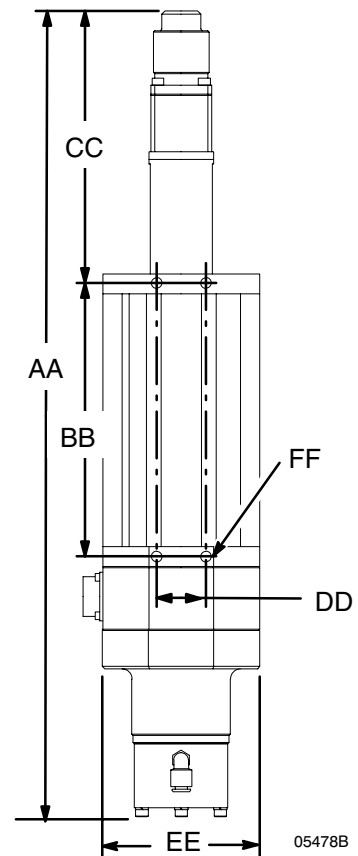

Fig. 1
1. Mount the Metering Valve. See the mounting hole dimensions in Fig. 1.